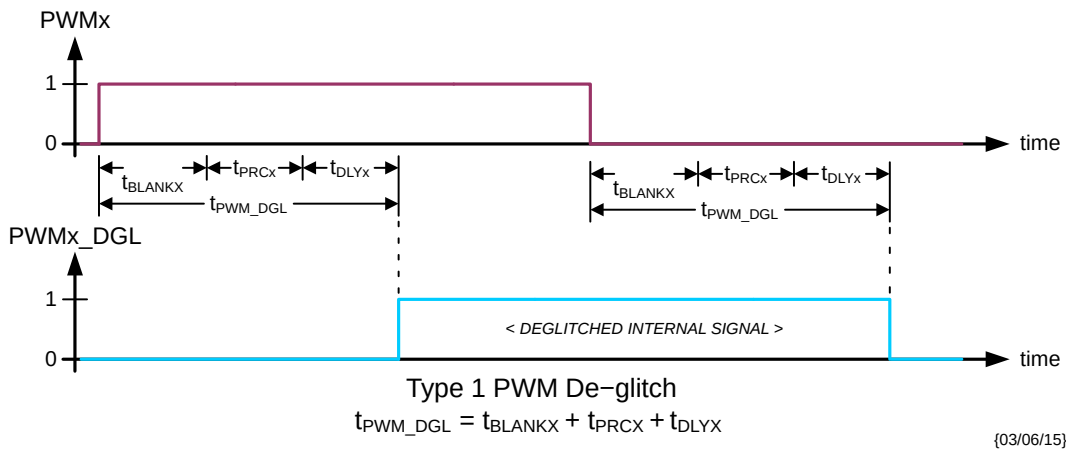
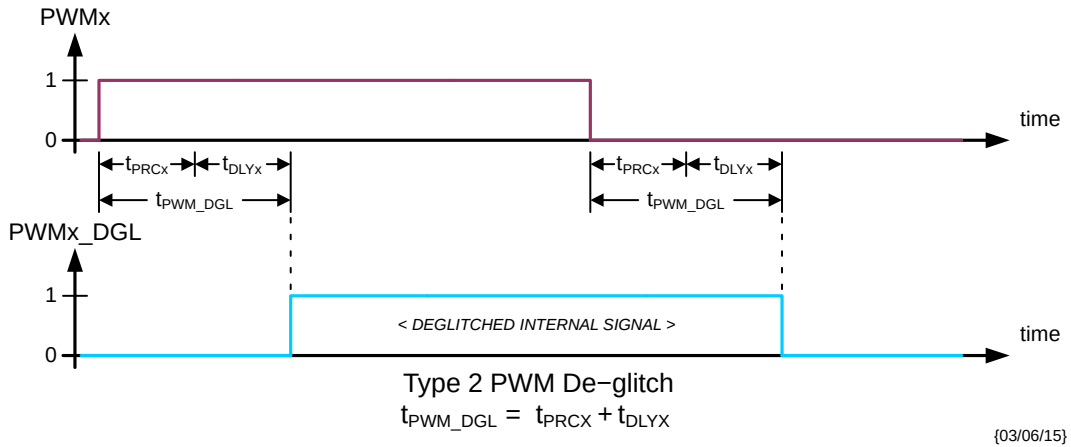
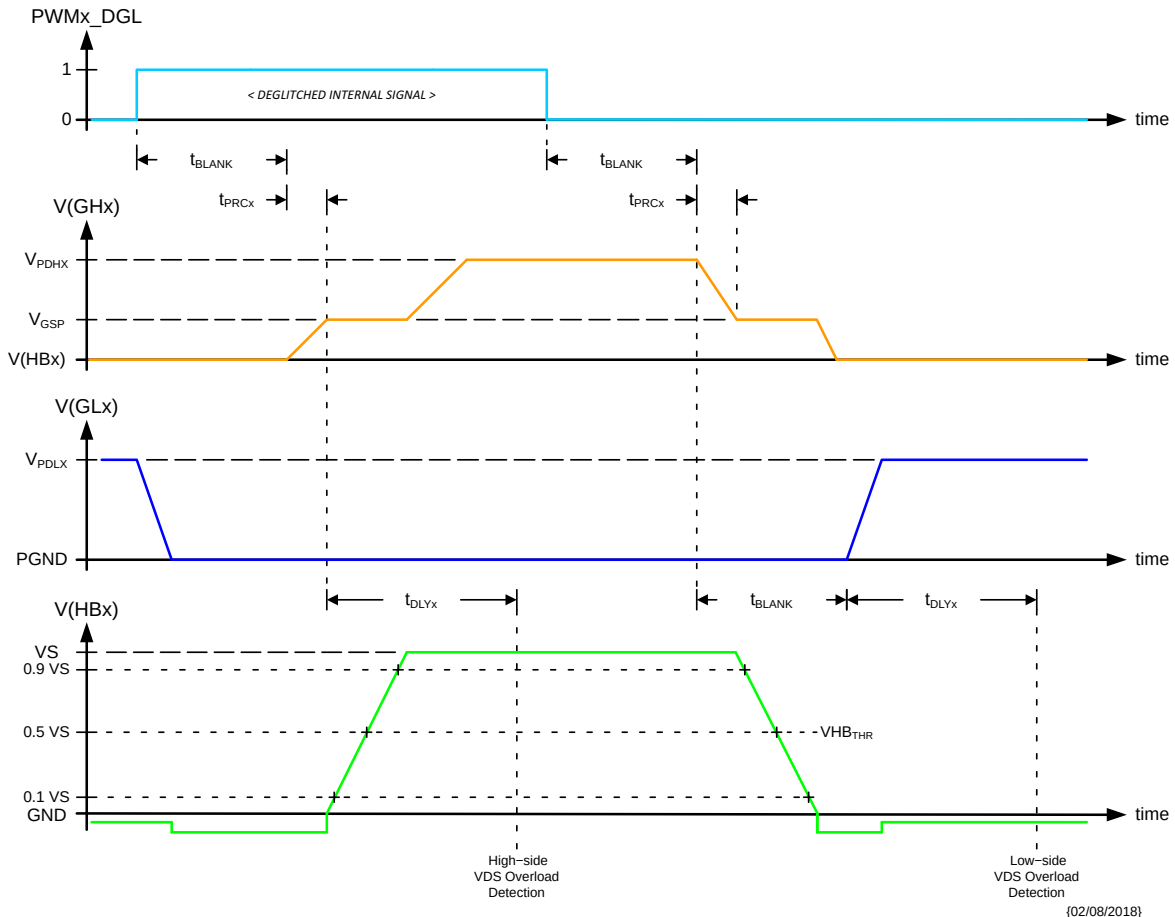

Figure 10. Type 1 PWMx Input De-glitch – $CR14.DGLx = 0$
Figure 11. Type 2 PWMx Input De-glitch – $CR14.DGLx = 1$
Figure 12. HBx Output Switching in Half-Bridge Configuration
When multiple PWMx inputs are needed to be active, the scheduled PWM signals should be offset in time to avoid degradation of the VDS overload detection due to crosstalk (see § *Overload Protection*). The minimum offset should be based on the t_{PWM_DGL} times appropriate for the respective channels (see § *Switching Behavior of Half-bridge Drivers*, Figure 10 and Figure 11).
- adaptive PWM input de-glitch construction when in half-bridge configuration is selected by DGLx[6:0] bits (see Figure 10, Figure 11, Table 21 and Table 22).
In order to not overload the charge pump circuit in case of loss of VS or in case of a disconnected security switch, the steady state output current of the high-side gate drivers is limited to I_{GHX_SS} after $t_{TIMEOUT}$ (see $I(GHx)$ in Figure 12 and § *Electrical Characteristics: Half-Bridge Pre-Driver Outputs*).
When operating in PWM mode, type 1 de-glitch is selected when $CR14.DGLx = 0$ (see Figure 10) and the adapted time is given by:
Type 2 de-glitch is selected when $CR14.DGLx = 1$ (see Figure 11) and the adapted time is given by:
When operating in PWM mode, the timing of the gate drivers is according to Figure 12.
- the PWMx_DGL resulting from the channel's operating configuration (see § *Switching Behavior of Half-bridge Drivers*, Figure 10 and Figure 11);
The appropriate latch is set (after the adapted t_{PWM_DGL} – see Figure 10 and Figure 11) at the start of the switch activation (see V(HBx) in Figure 12). In the case of the high-side MOS, the delay time t_{DLYX} is started at the end of the pre-charge time (t_{PRCX}). In the case of the low-side MOS, the delay time t_{DLYX} is started concurrent with the GLx turn-on current (see I(GLx) in Figure 11). At the end of time t_{DLYX} the switching node voltage is compared with the appropriate VDS_{THR_R} or VDS_{THR_F} overload detection threshold (see § *Electrical Characteristics: Half-Bridge Diagnostics*).